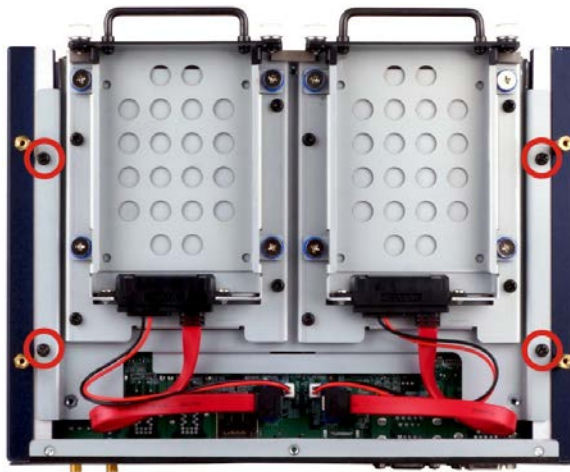

Figure 3-2: Internal Chassis Retention Screws
Step 3: Remove the four internal retention screws (Figure 3-2).